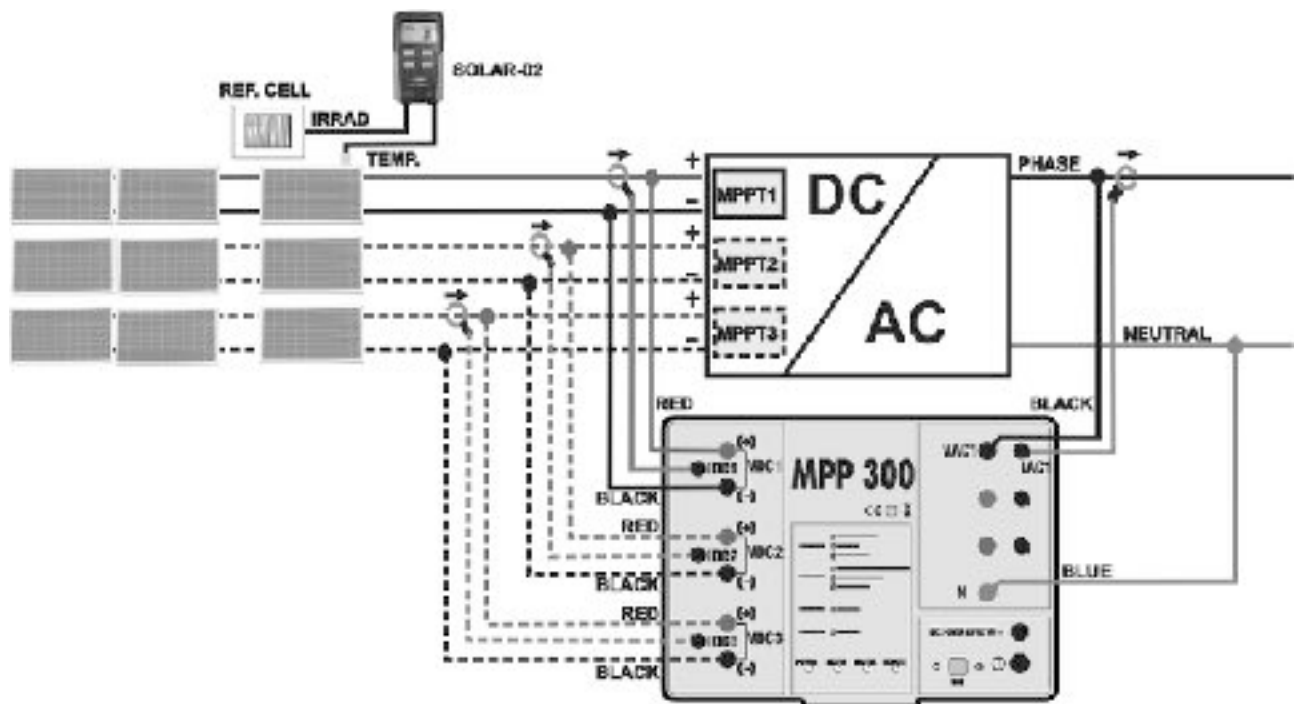

Fig. 5: Connection of MPP300 for testing a single-phase PV system
7. Connect the **VDC1(+)** and **VDC1(-)** inputs of unit **MPP300** to the output terminals of the string, respecting the polarities and the colours indicated in Fig. 5 or Fig. 6
10. Insert the DC current clamp onto the positive output conductor of the string, **respecting the direction of the arrow** found on the clamp itself as indicated in Fig. 5 or Fig. 6. Position the clamp toroid as far as possible from the inverter and from the negative output conductor of the string itself.
12. Connect the **VAC1** and **N** inputs of unit **MPP300** to the Phase and Neutral conductors respectively, respecting the polarities and the colors indicated in Fig. 5 or Fig. 6. In case of three-phase systems in which no Neutral conductor is available, connect input **N** to earth.
14. Connect the AC clamp to the Phase L1 conductor, **respecting the direction of the arrow** found on the clamp itself as indicated in Fig. 5 or Fig. 6. Position the clamp toroid as far as possible from the inverter and from the Neutral conductor. Connect the clamp output to the **IAC1** input of MPP300.